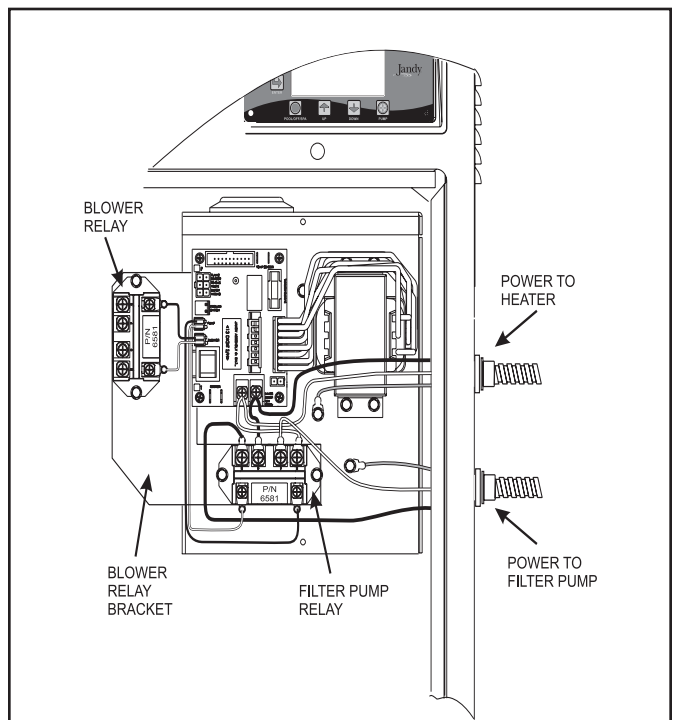

Figure 6. Mount the Bracket Under the Filter Pump Relay
- Place the bracket, with the blower relay, in position by aligning the holes in the bracket with the holes on the back panel where the pump relay was mounted. Place the pump relay over the bracket and use the screws removed earlier to secure the bracket and the pump relay to the back panel (see Figure 6).